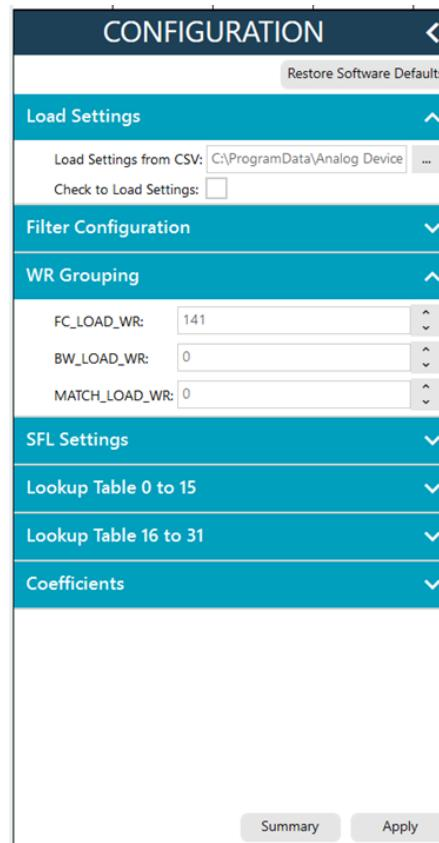

Figure 11. ADMV8526 CONFIGURATION Section
7. Use the **CONFIGURATION** section (see Figure 11) in the ACE software to initialize the chip. By default, the **ADMV8526\_Coefficients\_Bandwidth\_Nominal.csv** file is loaded into this section. Click **Apply** to send the default settings to the chip and to allow the main diagram user controls to become editable.
3. Click the ... button next to **Load Settings from CSV** to select which .csv file to load (see Figure 11).